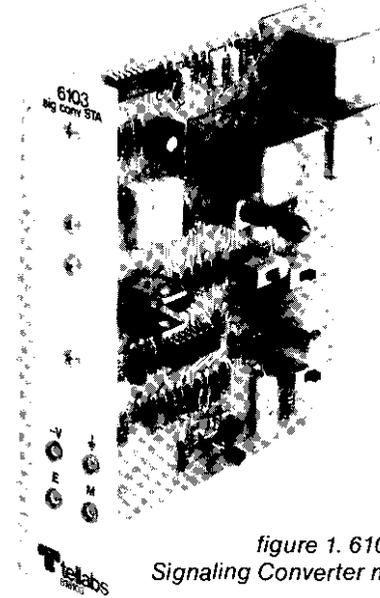

figure 1. 6103 FXS Signaling Converter module
1.01 The 6103 FXS (foreign exchange, station end) Signaling Converter module (figure 1) provides conversion between facility-side E&M signaling and the loop signaling normally used at the station end of a foreign exchange (FX) or off-premises-station (OPS) circuit. Specifically, the 6103 converts incoming E-lead signals to station-end ringing and seizure states and also converts supervisory and dialing states from the station to outgoing M-lead signals.